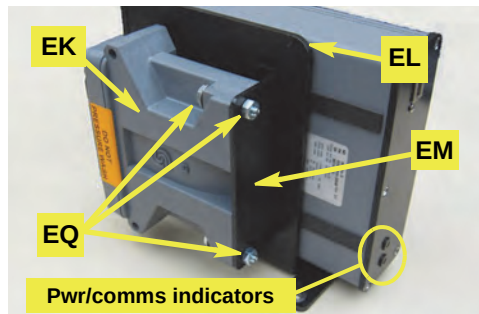

Figure 1c: Steering controller installed
- Using hardware **WF** (screw) and **WE** (nut), attach the WAS arm **WC** to the WAS assembly. Mount the arm in the opposite direction to the WAS wire connector **WB** (Figure 1c with inset).
Figure 1c with inset: WAS arm installed
- e. Using hardware **EQ**, attach steering controller **EK**, connectors rearward, to its bracket **EM** (Figure 1c).